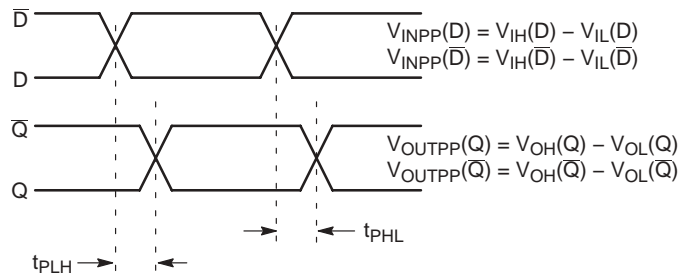

Figure 9. AC Reference Measurement
18. See Figure 9 $t_{skew} = [t_{PLH} - t_{PHL}]$ for a nominal 50% differential clock input waveform. Skew is measured between outputs under identical transitions and conditions @ 1 GHz.